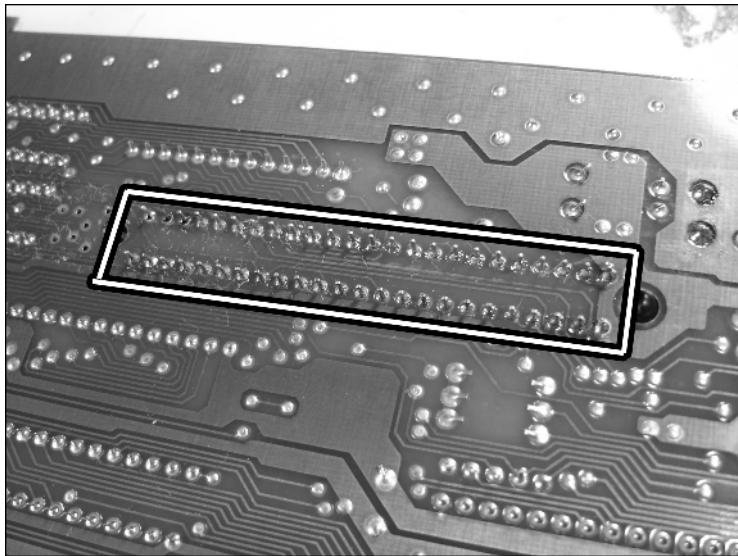

FIGURE 6-3: The leads holding the useless expansion port in place.
4. Next up for extraction is the useless expansion port. Flip the main board over, and you'll see two rows of leads (Figure 6-3). Desolder all of them and pry off the port. (Take care when prying that you don't smash small components on the board with your screwdriver.)